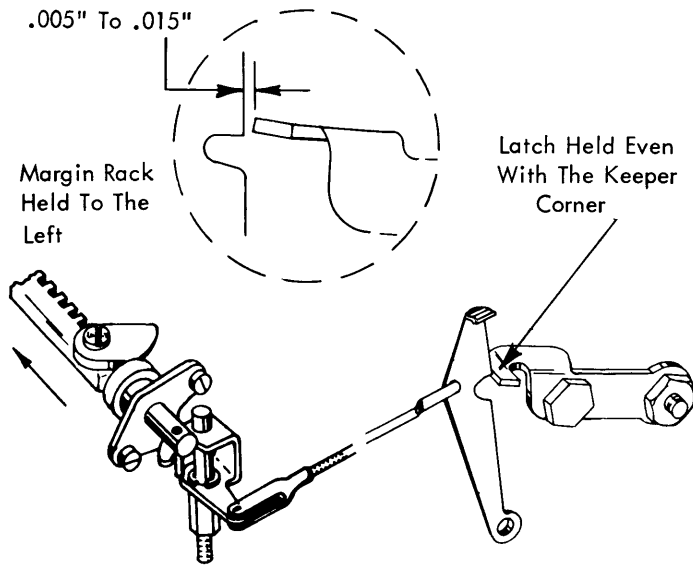

FIGURE 140. Clutch Unlatching Adjustment
- 9. **Clutch Unlatching** - With either style margin rack held to its extreme left position, the carrier return latch keeper should clear the latch by .005" To .015" at the unlatching point (Fig. 140). Check by manually holding the latch at the unlatching point while the machine is idling. Lengthen or shorten the carrier return unlatching link to obtain this clearance.